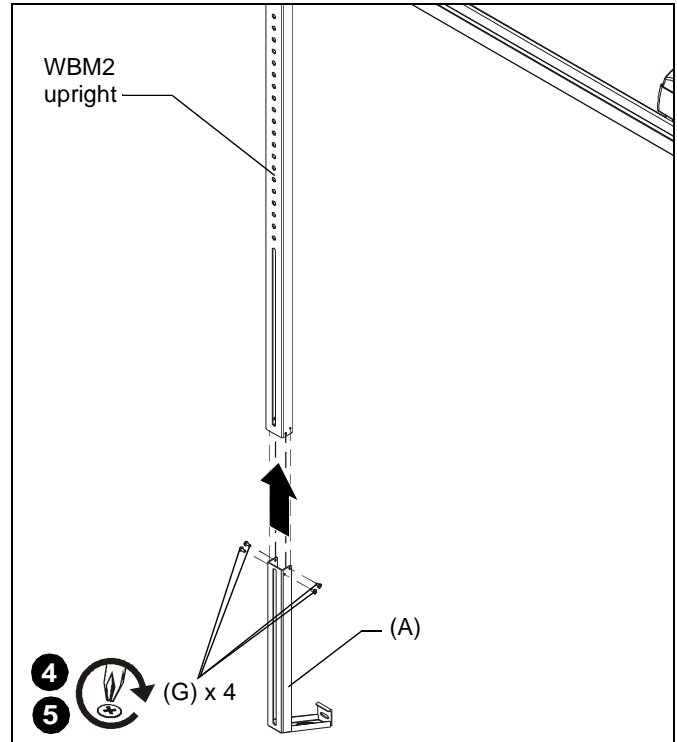

Figure 2
4. Attach fixed wall leg (A) to bottom of WBM2 upright using the four #8 x 1/2" Phillips self-tapping screws (G). (See Figure 2)